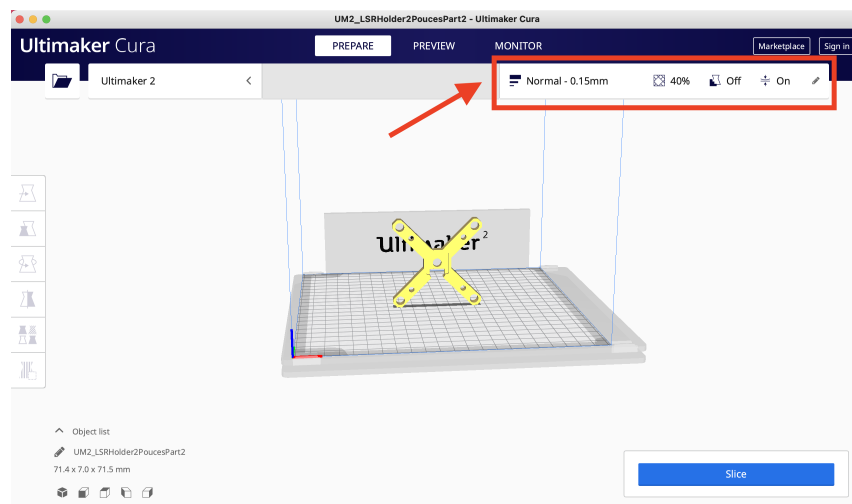

FIGURE 1
5. You can change the parameters of the printing by clicking on the white band in the top-right of your screen (Figure 1).